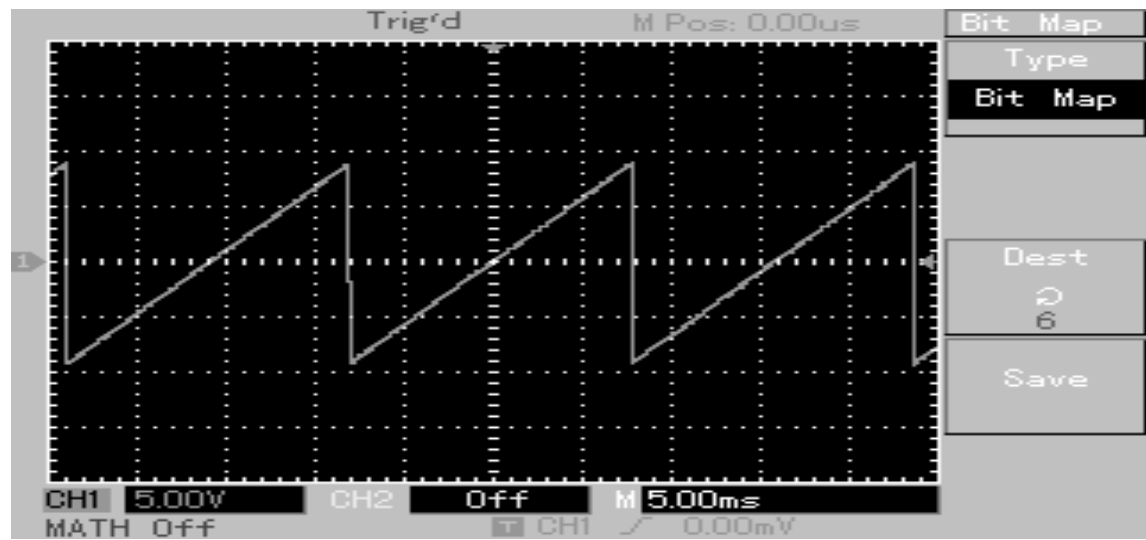

FIGURE-3.7
- 3) If the waveform shown in FIGURE-3.7 is not coming then adjust the POT PR5 (offset adjust) until you will get a ramp of nearly $\pm 9.5\text{Vpp}$.